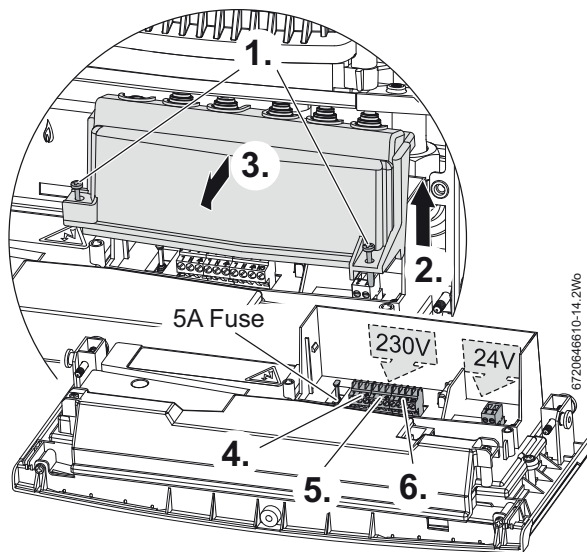

Fig. 43 Removing the installer access cover
1. Refer to fig. 43 and remove the screws in the installer access cover.